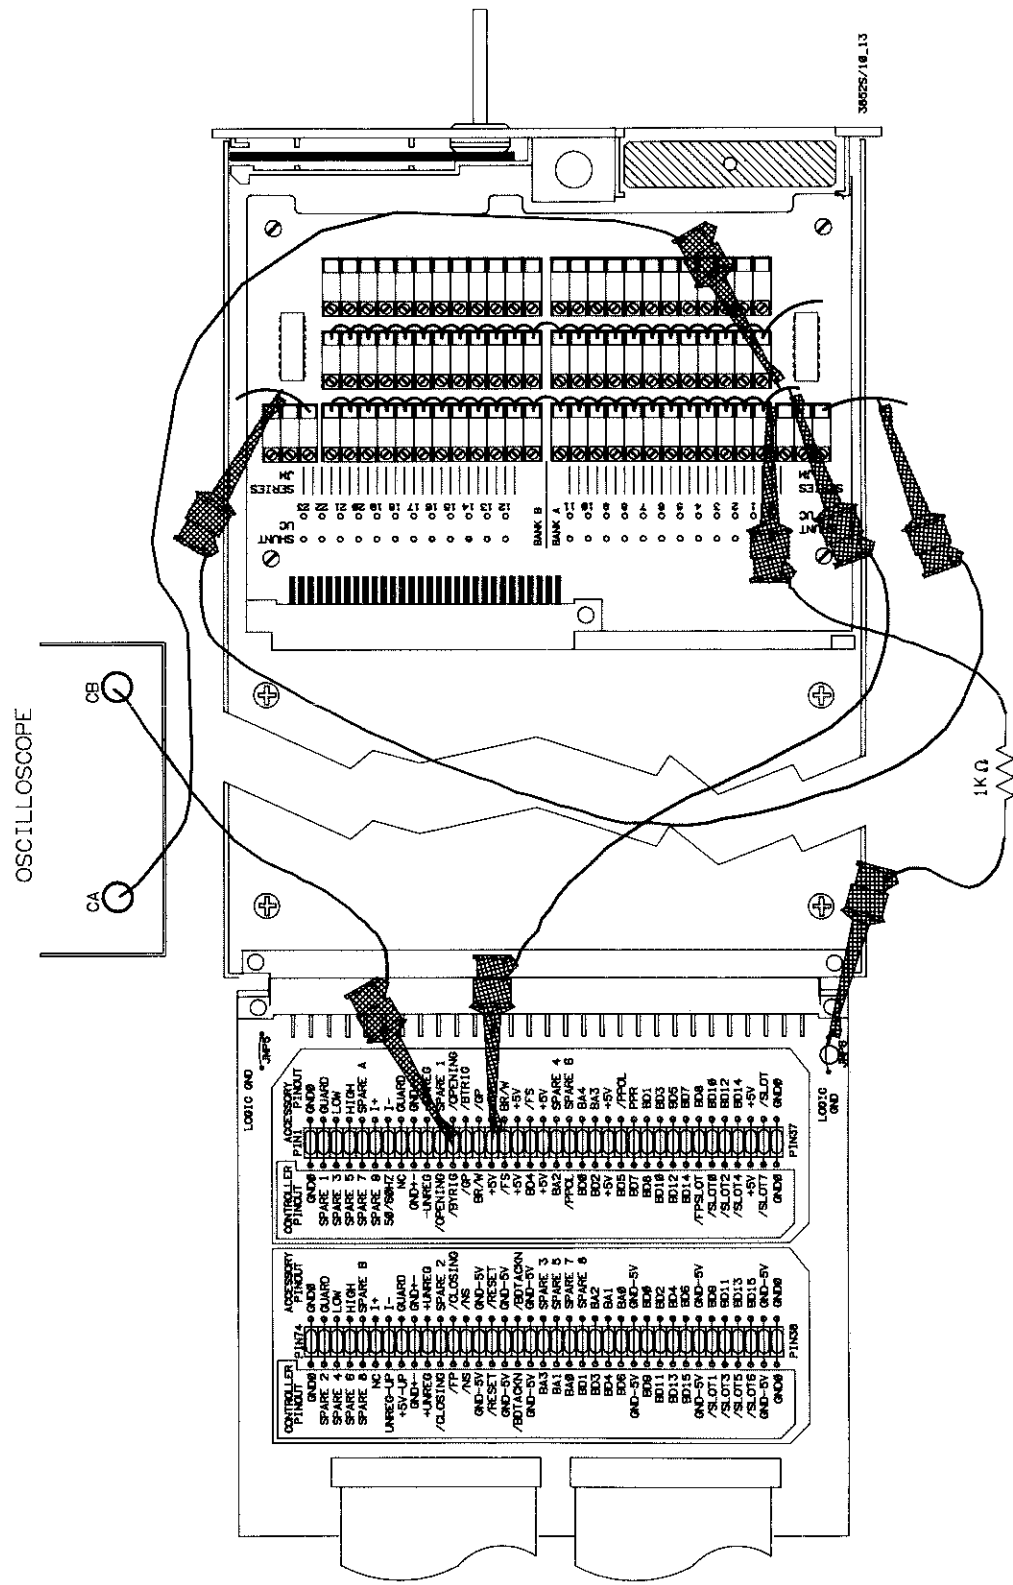

Figure 10-13 HP 44711A Opening Time Set-Up
1. Remove power from the HP 3852A and unplug the multiplexer to be tested. Install the Service Module in a convenient slot in the HP 3852A. Note the slot number where the Service Module is installed. Install the multiplexer on the service module. Install the test fixture on the multiplexer. The Set-Up Procedure is depicted in Figure 10-13.